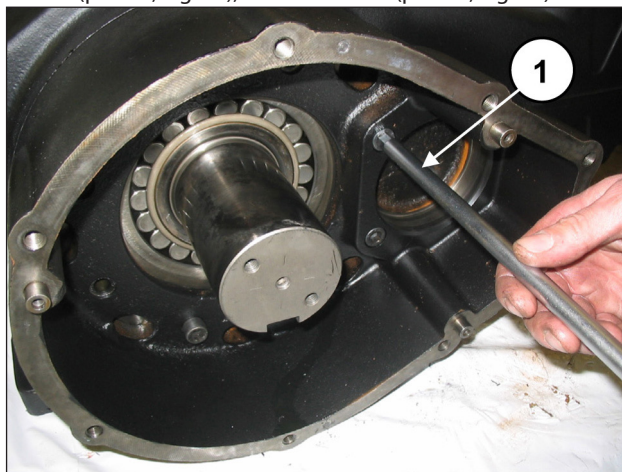
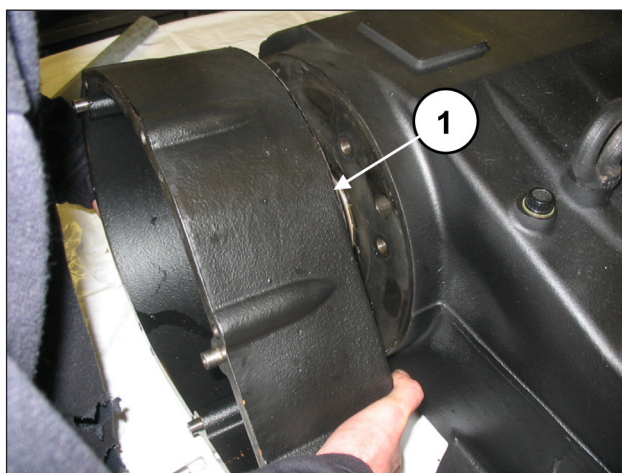

Fig. 21
Fig. 22
On the opposite side, unscrew the reduction gear box fixing screws (pos. ①, Fig. 21), then remove it (pos. ①, Fig. 22).